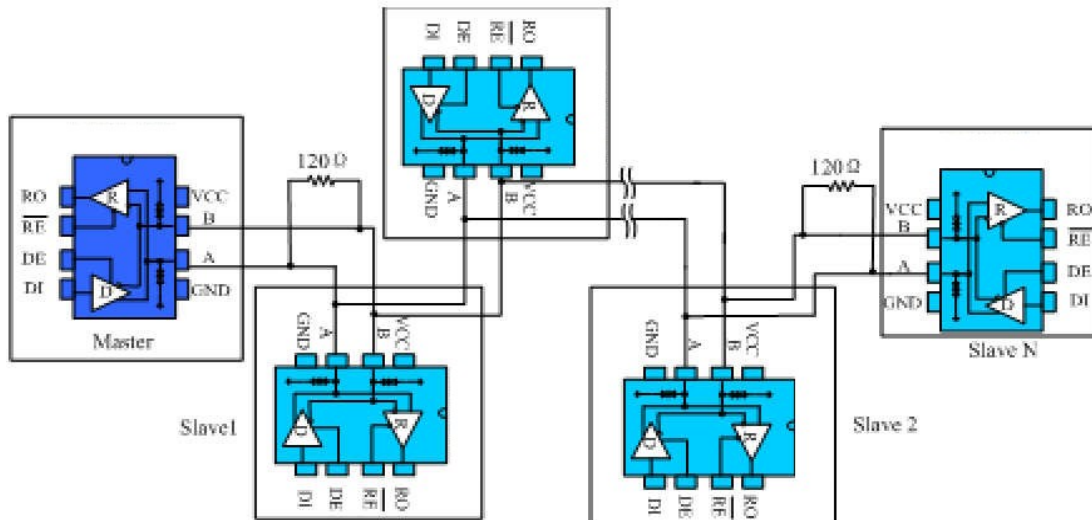

Fig. 10 Hand-in-hand type RS485 half-duplex communication network
4.2 Hand-in-hand networking: Also known as daisy chain topology, it is the standard and specification of RS485 bus wiring, and is the RS485 bus topology recommended by organizations such as TIA. The wiring method is that the master control device and multiple slave devices form a hand-in-hand connection, as shown in Figure 10, the hand-in-hand way is to leave no branches. This wiring method has the advantages of low signal reflection and high communication success rate.